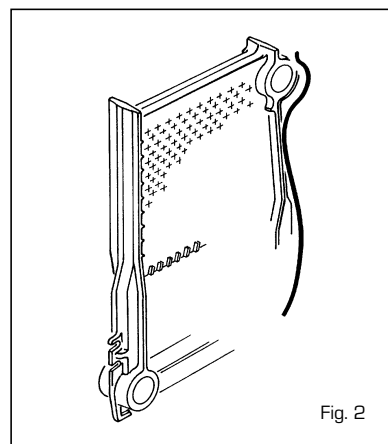

Fig. 2
- insert the bead of putty (fig. 2) in the groove provided for fume tightness, pressing lightly;